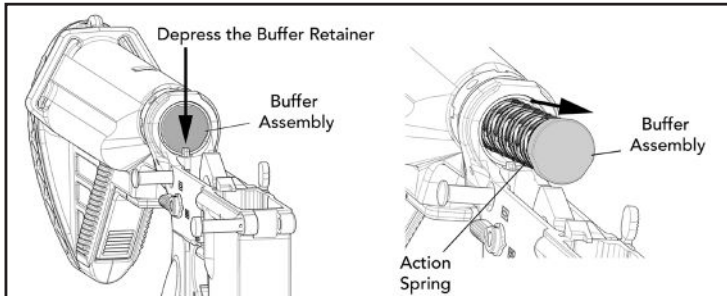

Fig. 50 – Removing Buffer Assembly
- a. Depress the buffer detent with the tip of the piston rod and remove the buffer and action spring from the receiver extension (buffer tube) (Fig. 50).